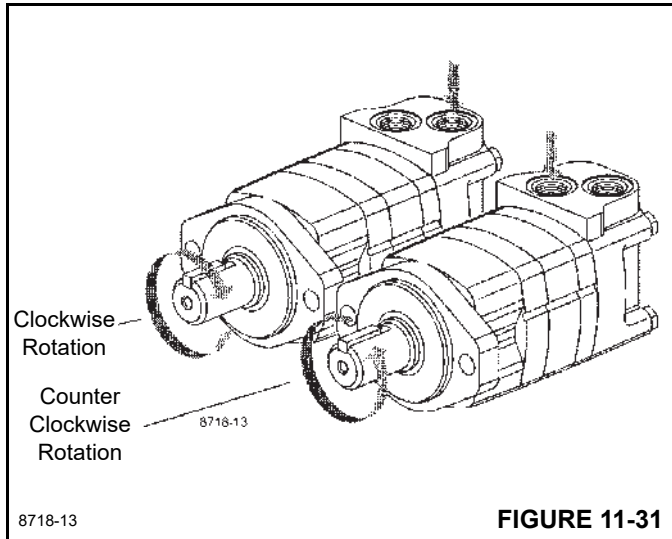

FIGURE 11-31
**Timing Step # 3** — Locate any one of the side openings of the valve and align this opening with the open slot of the valve plate that is in line with the largest open pocket of the Geroler. Install the valve by rotating it clockwise until the spine teeth engage (1/2 spine tooth max.). This will provide the proper rotation when pressurized as shown in Figure 11-31.